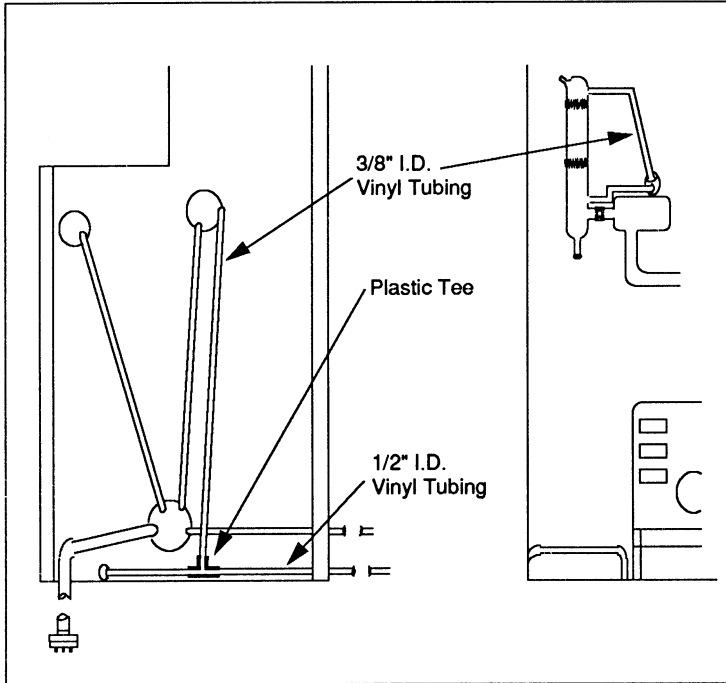

Figure 5-1. Vinyl Tubing Route
3. Install one end of the vinyl tubing to the top right tubulation on condenser B and route the other end through the cabinet and down the back as shown in Figure 5-1.